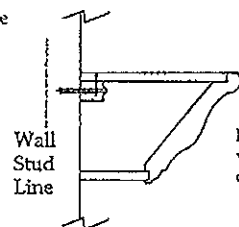
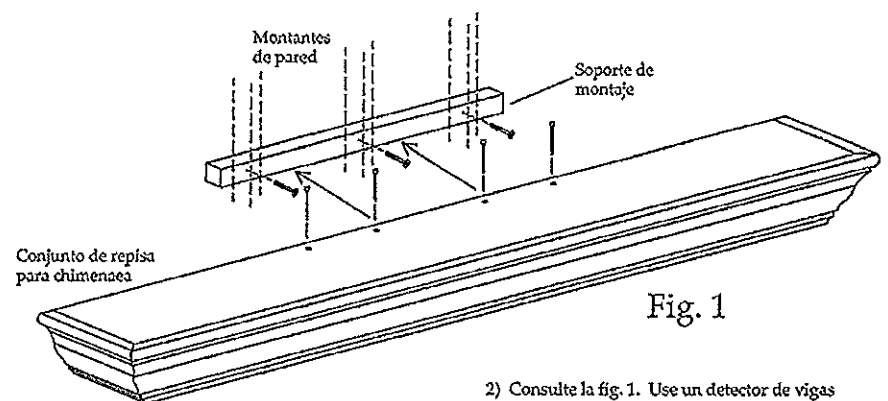

Fig. 2 Cross-sectional view of shelf, wall, and cleat assembly
Fig. 1
2) See Fig. 1. Use a stud finder to locate at least (2) studs in the wall as close to the center of the final mantel shelf location as possible. The cleat should be close to center to give the shelf stability during and after installation. Use a tape measure to find the exact location of the cleat (vertically).
3) Use a level and a pencil to mark a position for the cleat. Attach the cleat by running a wood screw through the cleat and into a stud in at least (2) places (sketch shows (3)). You may find it helpful to pre-bore the cleat.
4) Center the shelf on the cleat so that it is resting in its final location. At this point it is recommended that a second person hold the shelf while installer marks top of shelf to pre-bore for finish nails (make sure pre-bore holes are not large enough for nail head to fit through and that they do not align with wood screws - this will make it difficult to drive nails). See Fig. 1.
5) Once nail holes are pre-bored you can proceed with nailing - you can also add a small "bead" of wood glue to the top of the cleat if desired for a more permanent installation. Once again, make sure the shelf is located correctly. Also make sure it is firmly against the wall and proceed with nailing. See Fig. 1 and Fig. 2 for reference.